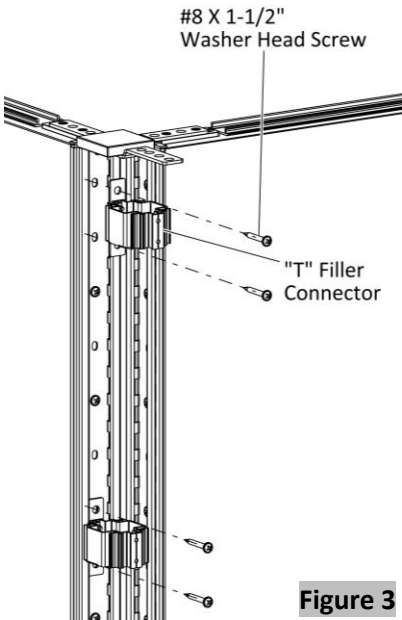

Figure 3
- 5. Position the "T" filler connector at the desired location, (Figure 3).